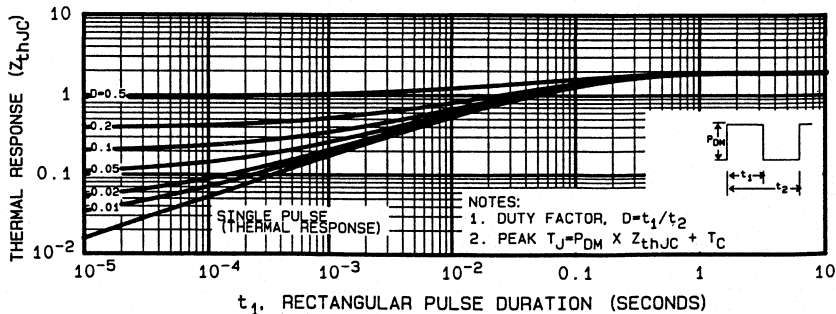

FIGURE 5. MAXIMUM EFFECTIVE TRANSIENT THERMAL IMPEDANCE, JUNCTION-TO-CASE vs PULSE DURATION
3. Repetitive Rating: Pulse width limited by max. junction temperature. See Transient Thermal Impedance Curve (Figure 5)